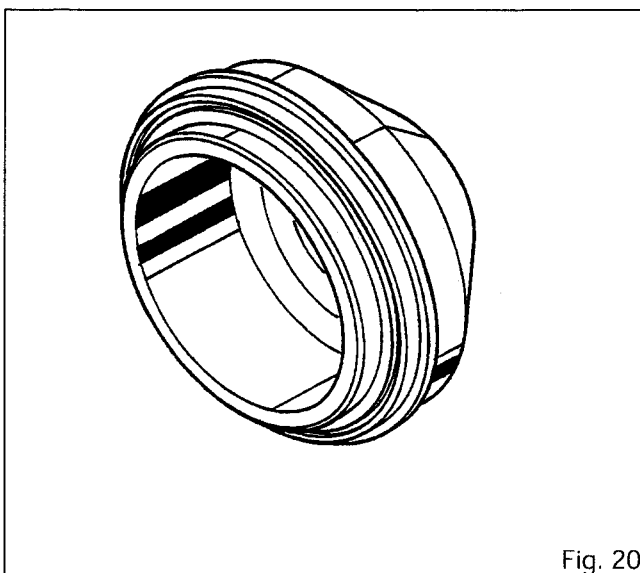

Fig. 20
*** 3378040M1 - Fitting tool for seal (45) (axles AG 85 and AG 105) (Fig. 20)**
*** 3378056M1 - Fitting tool for seal (45) (axles AG 125 and AG 155) (Fig. 20)**